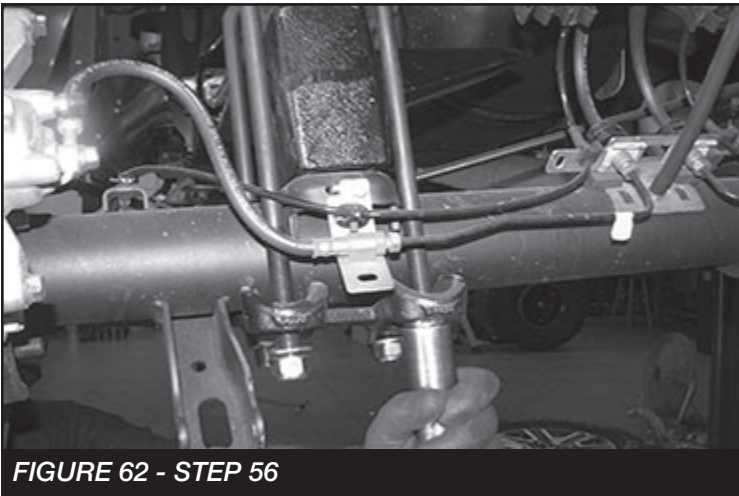

FIGURE 62 - STEP 56
56. Locate and install the rear lift blocks FTBK52. The extended bump stop perch will be facing inboard of the truck. Using the provided u-bolts, nuts and washers, align the axle, lift blocks, and springs and torque u-bolts to 90 ft-lbs. **SEE FIGURE 62**